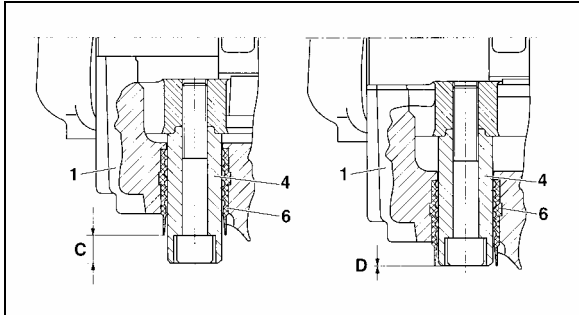

FIGURE 23: BRAKE PAD CHECK
Brake pads have to be checked on a regular basis depending on the vehicle operation. The remaining thickness of the pads should never be less than 3/32 in (2 mm). To check pad condition without removing the wheel, verify the position of guide bushing (6) relatively to guide sleeve (4) (see Fig. 23). When guide sleeve is in alignment with guide bushing, brake pad thickness has to be checked more precisely with the wheel removed. When replacing brake pads, all four pads on an axle have to be changed at the same time. There is no inner or outer pad, since all pads are the same. Once removed, worn pads should be replaced in their original position.